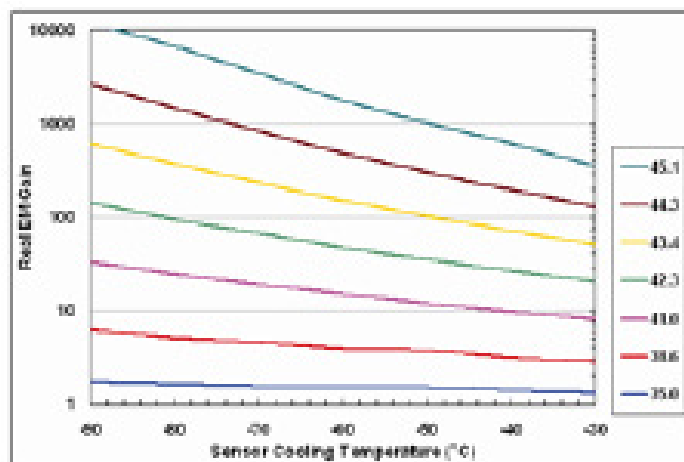

Figure 15: EM Gain vs sensor cooling temperature
The effect of sensor temperature on EM Gain is shown in **Figure 15**. This dependence arises primarily from photon scattering of electrons when they are accelerating in the EM electric field. The scattering causes a loss of energy, which increases with temperature. To make up this loss and maintain EM Gain, a larger EM electric field must be used at higher temperatures. As can be seen from **Figure 15**, EM Gains well in excess of x1000 can be achieved at low temperatures. However, it is not recommended to use gains above x1000 because such high gains can cause significant ageing of the gain register (see EM Gain Ageing in **Section 4.1.7**).
- Do not use EM Gains greater than necessary to overcome the read noise (please refer to **Figure 15** and **Figure 17**). A gain of x4 or x5 of the root-mean-square read noise (accessible from the performance sheet) is normally more than sufficient to render this noise source negligible. In practice, this can always be achieved with EM Gain of less than x500 (much less for the slower readout speeds). Pushing gain beyond this value would give little or no extra S/N benefit and would only reduce dynamic range.